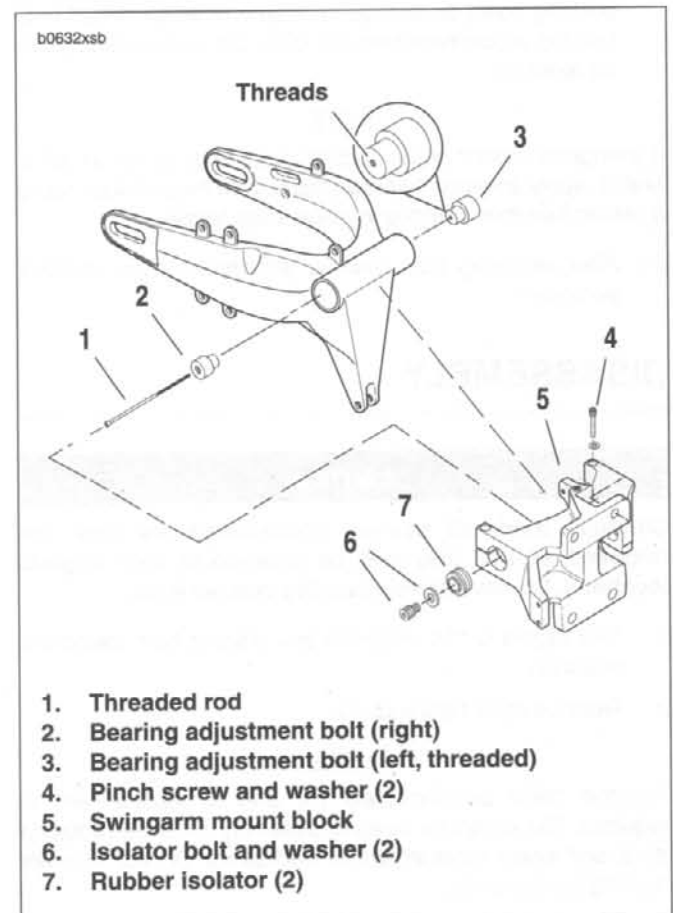
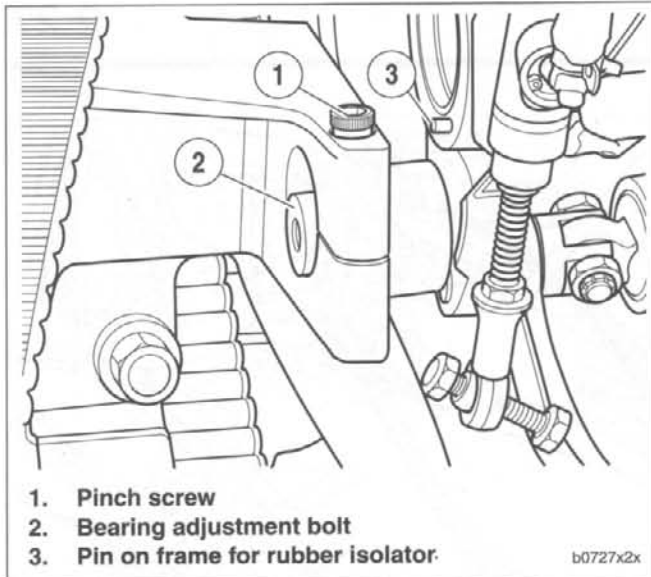
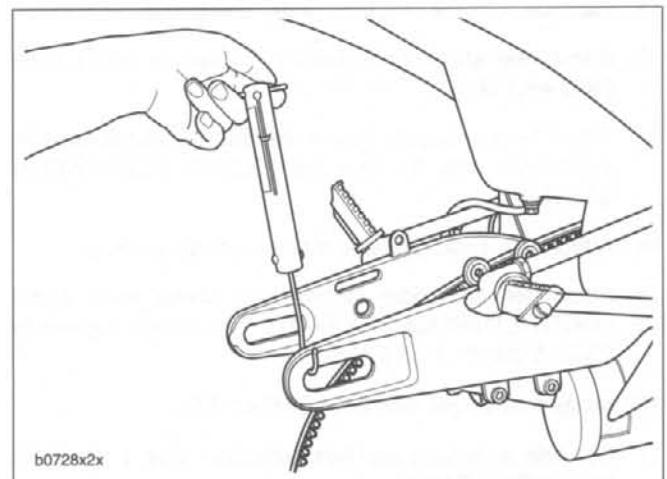

Figure 2-112. Swingarm Assembly
Figure 2-113. Swingarm Mount Block, Right Side
Figure 2-117. Checking Preload
14. See Figure 2-112. Remove left and right isolator bolts and washers (7).
20. See Figure 2-113. Using floor hoist, raise frame while pushing down on swingarm. Frame must be raised until bearing adjustment bolts (2) clear pin on frame and can be removed.
See Figure 2-112. The left side bearing adjustment bolt (3) has additional internal threads.
- a. Apply LOCTITE THREADLOCKER 222 (purple) to the threaded rod (1).
- b. Insert the rod through the right side bearing adjusting bolt (2).
- c. Install and tighten left bearing adjustment bolt (3) (with internal threads) on left side of swingarm.
- d. Tighten the left pinch screw (4) on the swingarm mount block (5). Do not tighten the right side pinch screw at this time.
1. See Figure 2-112. Align **new** swingarm between posts on swingarm mount block (5).
3. Tighten left side swingarm pinch screw (4) to 18-20 ft-lbs (24.4-27.1 Nm).
4. Install threaded rod (1).
- b. Insert threaded rod through right side bearing adjustment bolt (2) into threads on left side bolt (3).
5. Check swingarm preload using a scale as shown in Figure 2-117. Preload should be 3.0-3.75 lbs (1.36-1.70 kg). If preload does not meet specifications, tighten or loosen threaded rod and recheck.
6. See Figure 2-113. Secure swingarm in place.
- a. Remove both pinch screws (1).
- b. See Figure 2-112. Install isolator bolts and washers (7) through rubber isolators and into bearing adjustment bolts (2, 3).